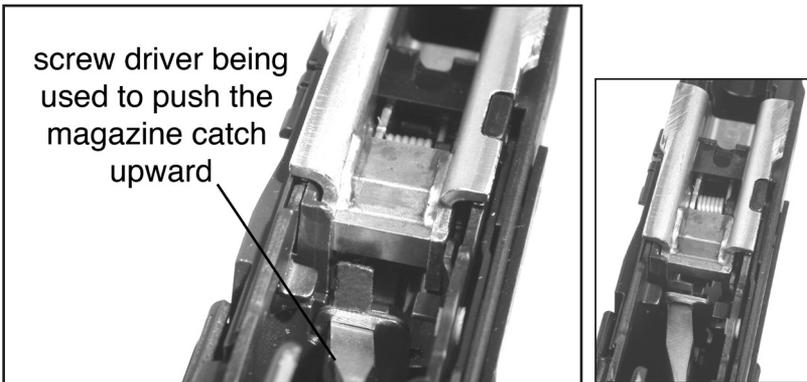

Figure 48 – Pushing the magazine catch upward with a narrow screw driver
3. With the latching clip held forward, place a narrow screw driver in the rectangular cutout (detent) in the magazine catch and push upward slightly (Figure 48). This action releases the push button and allows it to be removed and reversed.